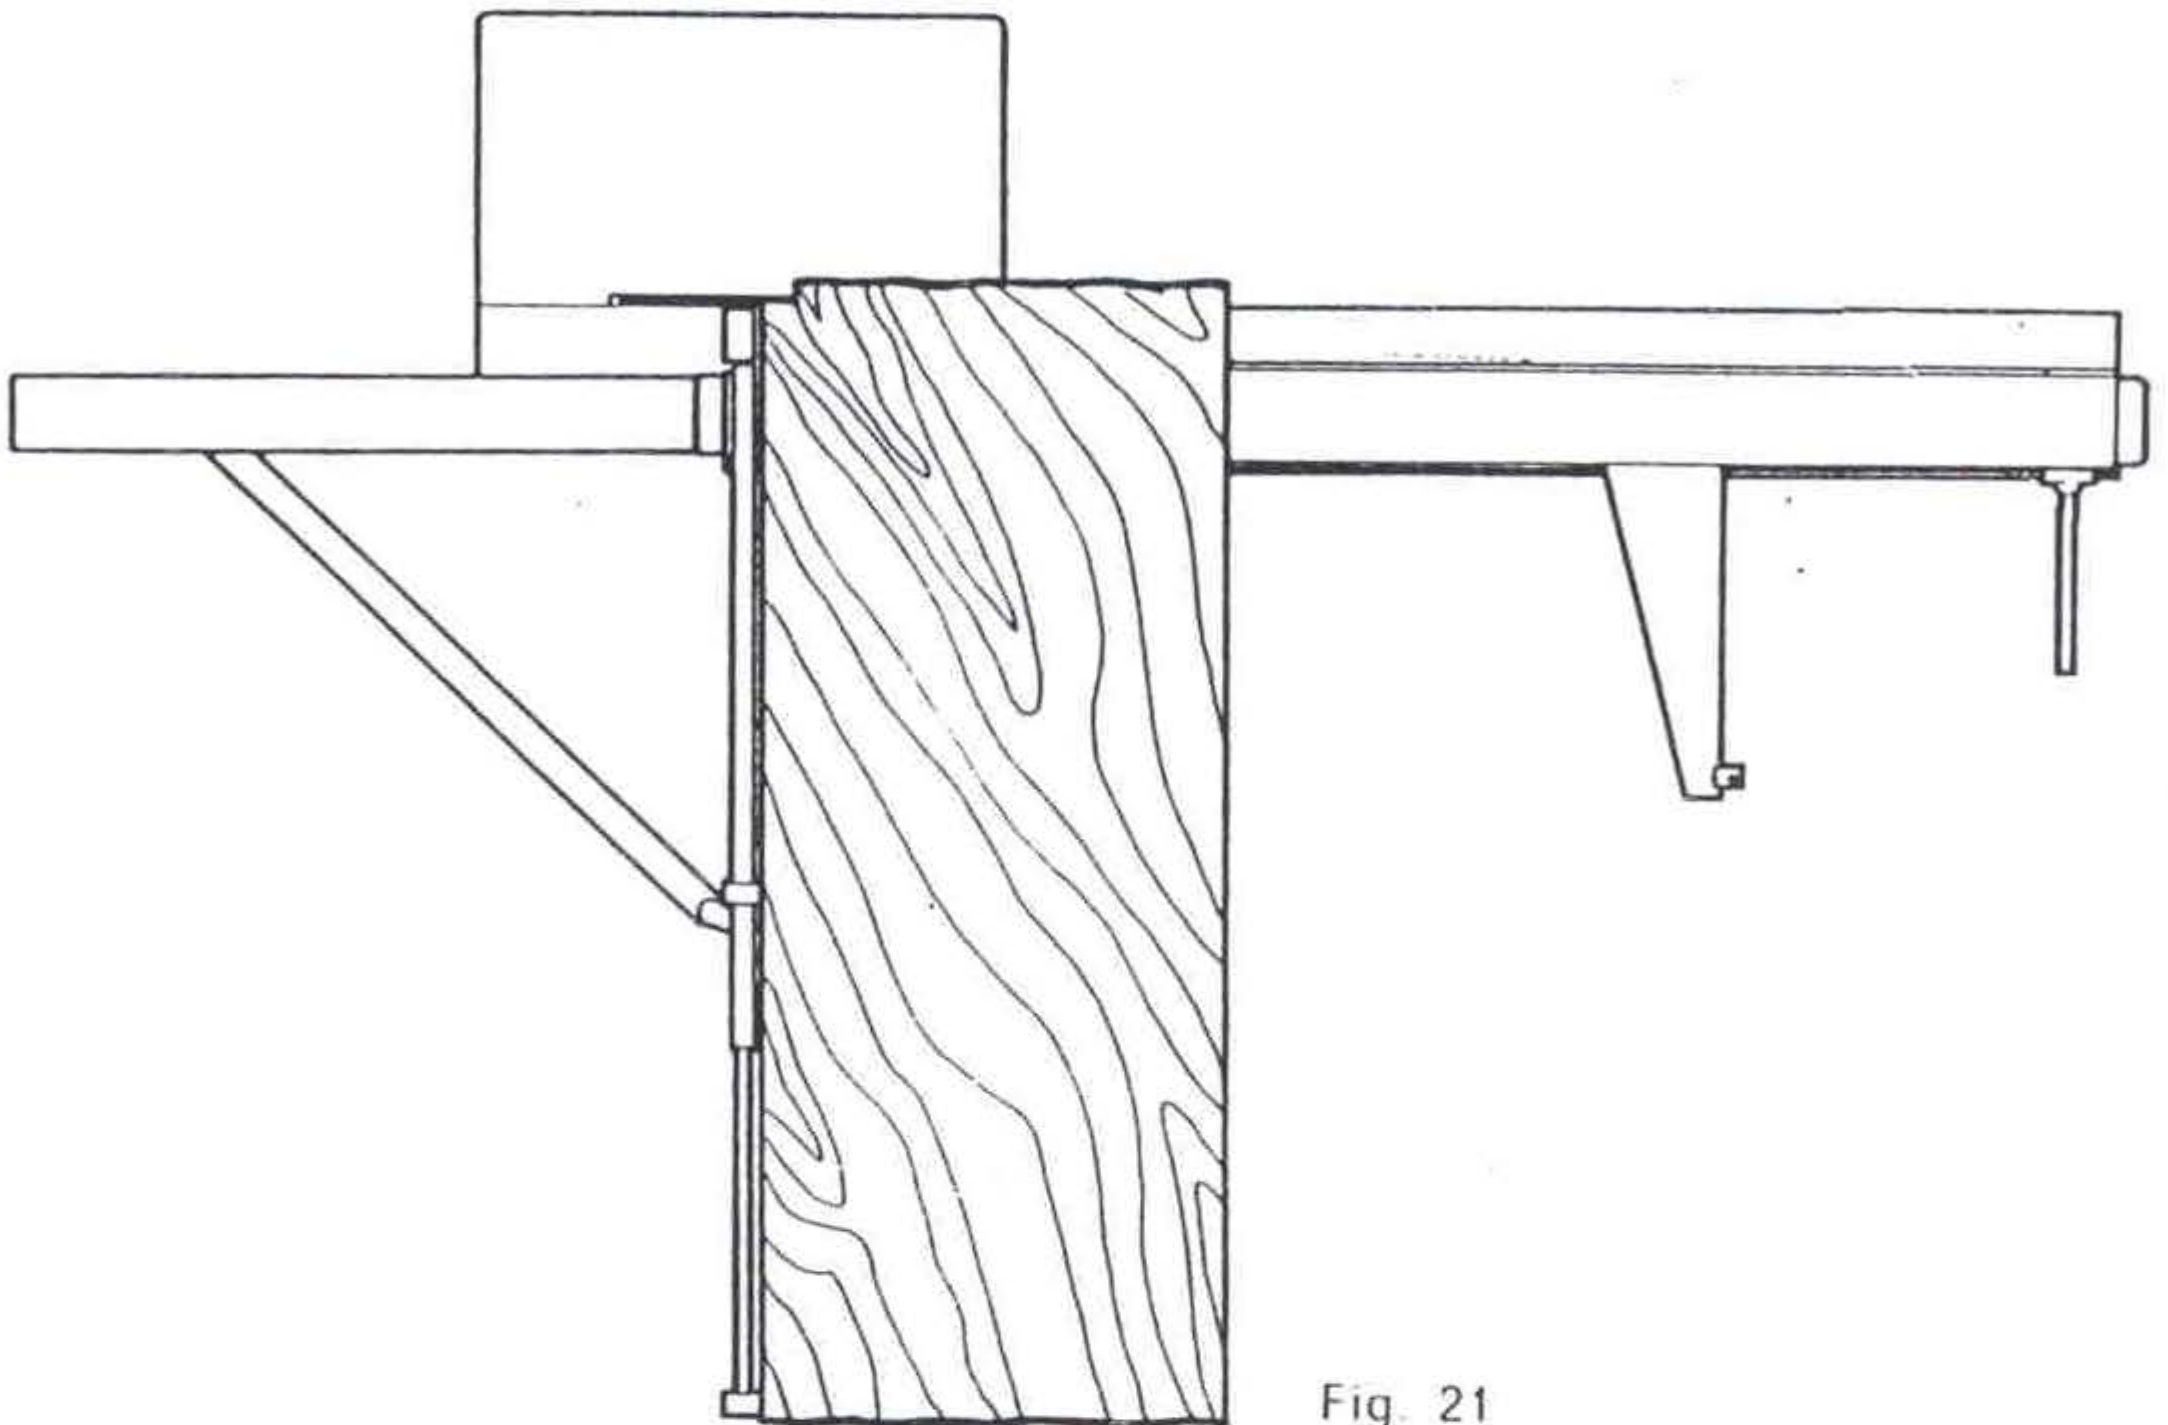

Fig. 21
- Now, trimming is done on the first side against the aluminium fence (fig. 21)